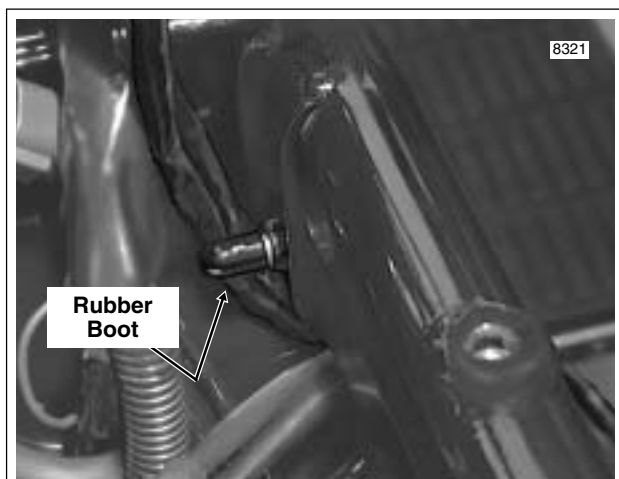

Figure 8-183. Remove Ignition Harness From Vehicle
- Damage to wires can result in electrical problems. Be sure that rubber boot is present on threaded end of battery box TORX screw. Replace rubber boot if absent or damaged. See Figure 8-183.
Damage to wires can result in electrical problems. Be sure that rubber boot is present on threaded end of battery box TORX screw. Replace rubber boot if absent or damaged. See Figure 8-183.
Damage to wires can result in electrical problems. Be sure that rubber boot is present on threaded end of battery box TORX screw. Replace rubber boot if absent or damaged. See upper frame of Figure 8-183.